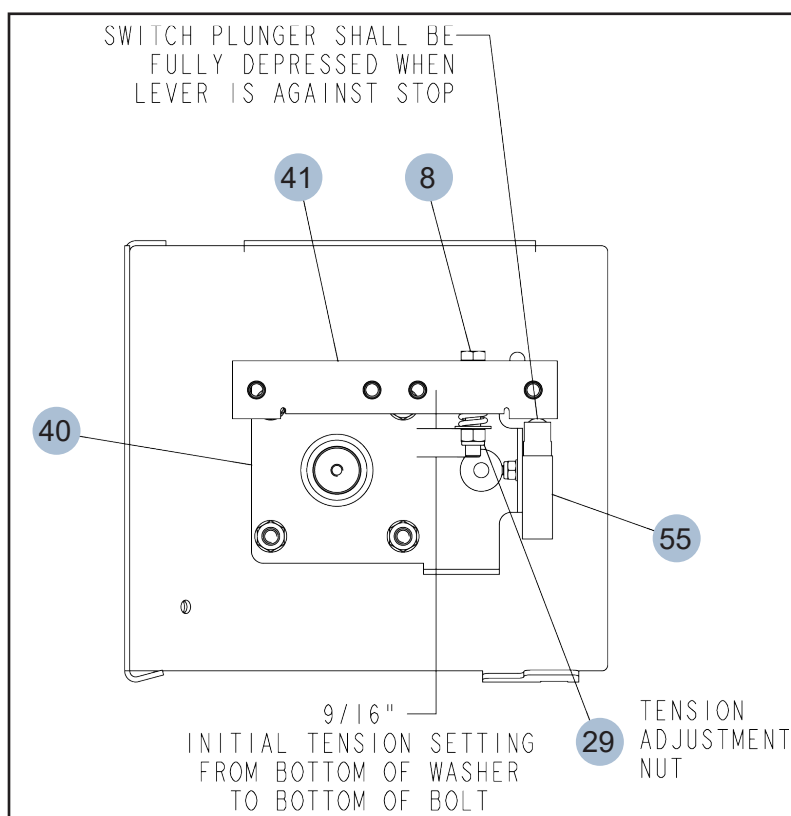

Fig. 9 - Drive / Jam Switch Tension Adjustment
3. Follow instructions in Fig. 9.